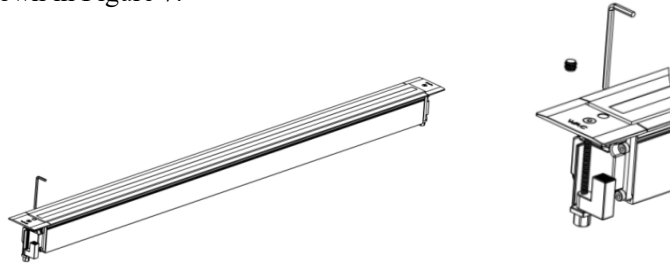

Figure 7
1. Angle adjustment version, open one end of the black plastic part, use an Allen wrench to adjust the light outlet angle of the lamp in the forward or reverse direction, and adjust the lamp angle to 0-15 degrees, as shown in Figure 7.